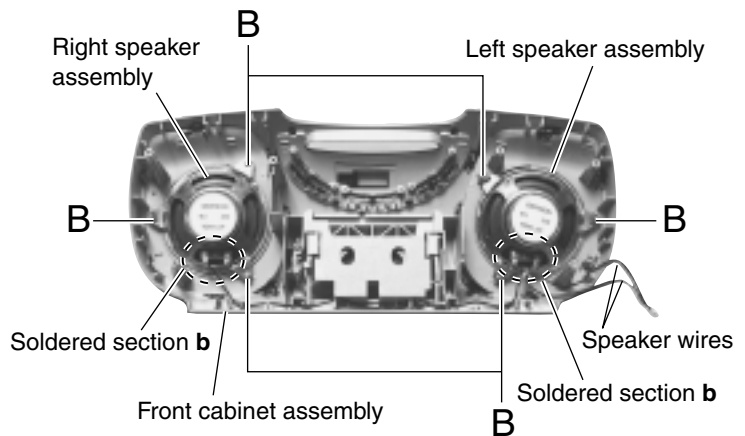

Fig.5
■ Removing the right and left speaker assemblies (See Fig. 5.)